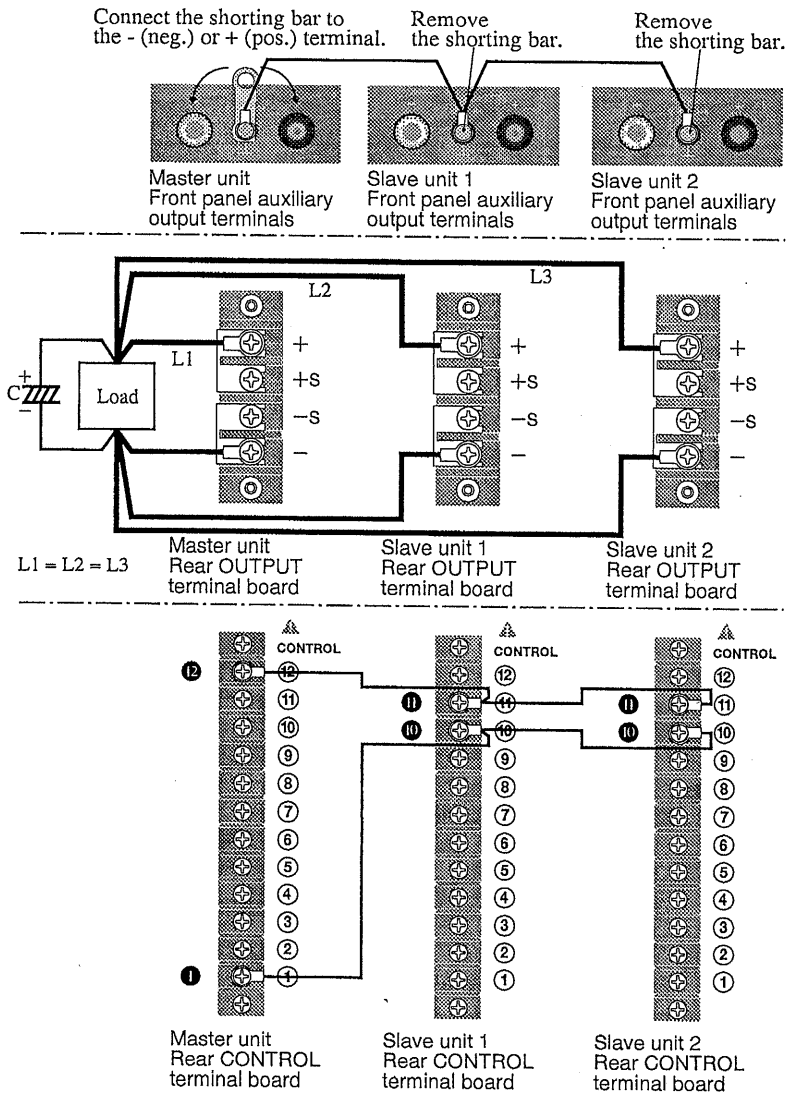

Fig. 3-9A Connection for master-slave-control parallel operation
- ⑤ Connect the master unit and slave unit as shown in Fig. 3-9A. Fig. 3-9A shows an example of how the rear output terminals are connected in parallel for two slave units
- The rear output terminal of the models shown on the left has a different shape from that of the unit shown in Fig. 3-9A. For information on load cable connection, see section 2.4 "Connecting load".
- ⑥ Connect an electrolytic capacitor (C) with a capacity of approximately 1,000 to 100,000 μ F to the load terminals as necessary.